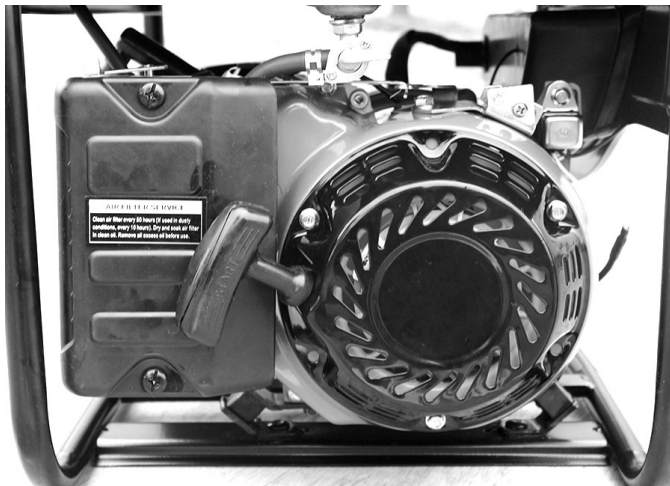

Figure 4
6. Slowly pull on the recoil starter handle, shown in Figure 4, until a slight resistance is felt. Then pull briskly to start the engine. Gently return the cord into the generator to avoid damage to the starter or housing. Never allow the cord to snap back.